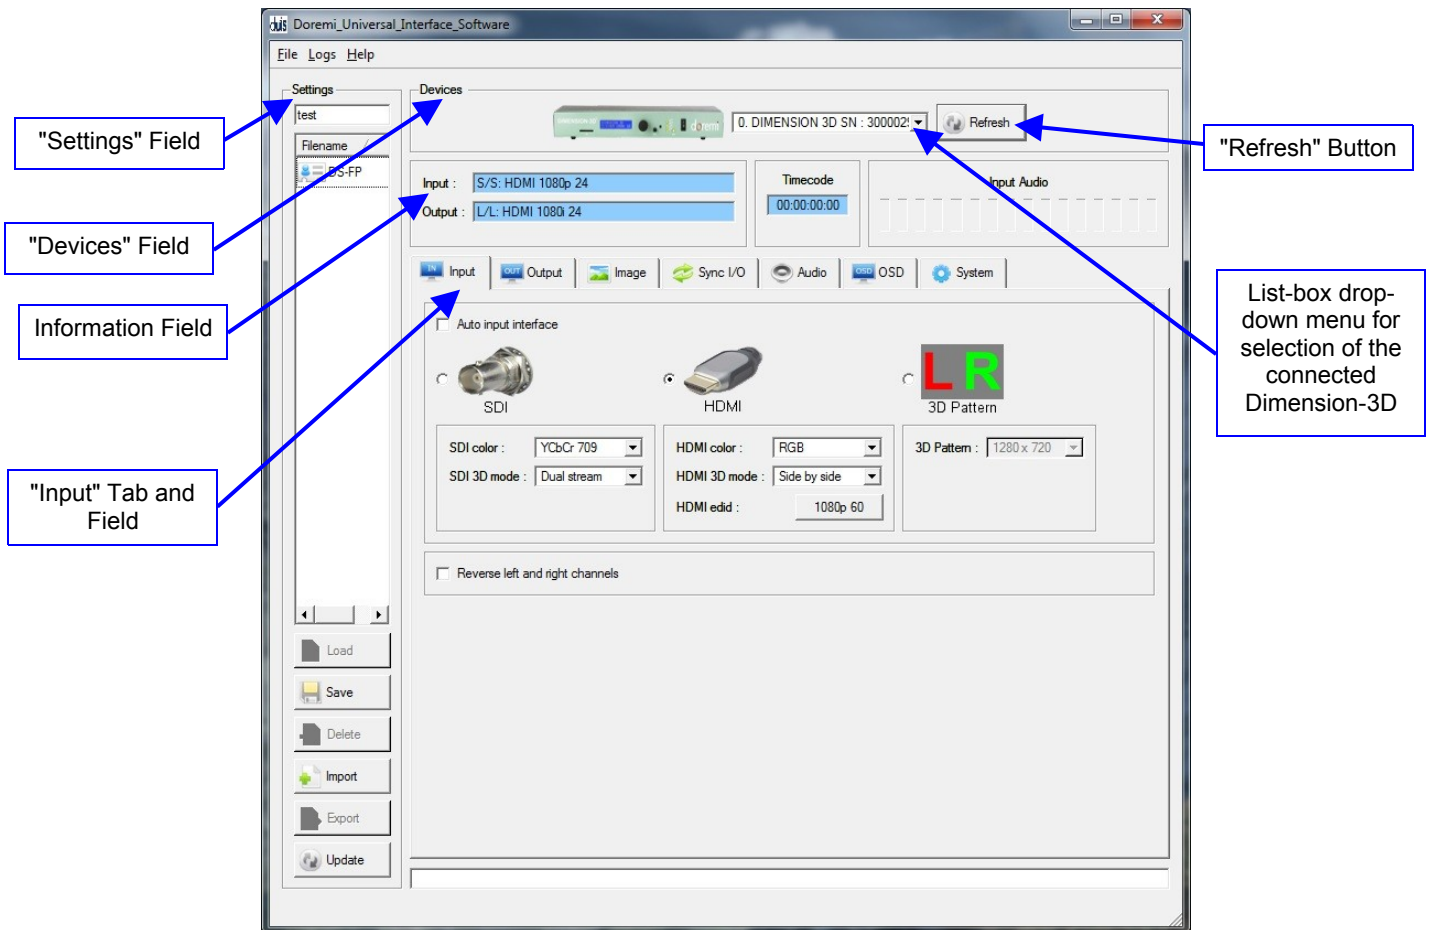

Figure 10: Doremi Universal Interface GUI
- The "Devices" field can be used to select one connected Dimension-3D from the drop-down menu. Click on the "Refresh" button to confirm if all the connected Dimension-3D units are visible (Figure 10).
- The "Information" field provides information about the input and output interfaces and resolutions. The "Information" field also provides the current "timecode" and audio input levels of the connected Dimension-3D device (Figure 10).
The "Input" tab is presented in Figure 10. All parameters are explained in this manual in the Section 3 “Dimension-3D Front Panel Controller.”